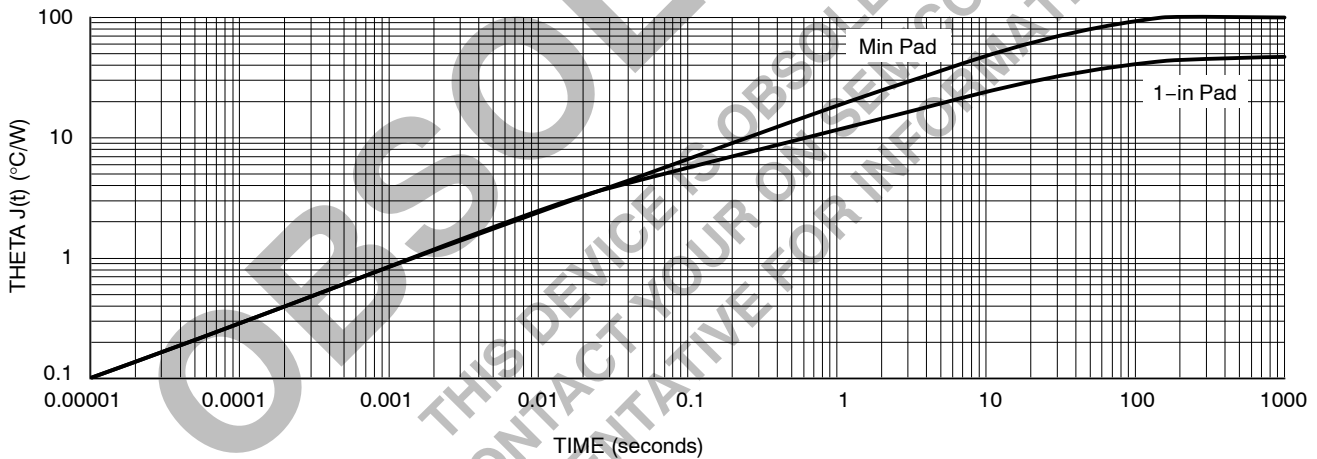

Figure 22. Thermal Transient Response
During the turn-on event, there is a large amount of energy dissipated due to the linear operation of the power device. The energy rating is the amount of energy that the device can absorb before the thermal limit circuit will shut the unit down. This is very important specially for the latch off device as it determines the maximum load capacitance that the device can charge before the thermal limit shuts the device down. The calculation of this is not very simple as it depends on several factors such as the input voltage (V_{in}), load capacitance (CL), current limit settings (I_{Limit}) and device’s thermal transient response, therefore, it is recommended to do lab evaluations for these purposes. Figure 22 shows the device’s thermal transient response for minimum pad.